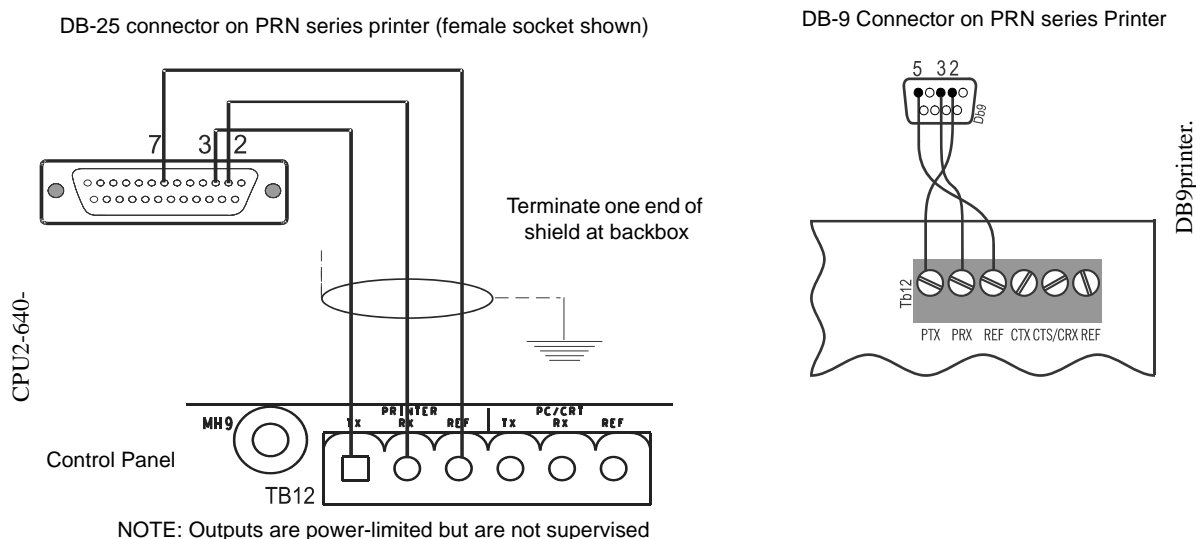

Figure 3.25 Remote Printer Connections
1. Connect the three (3) open leads of the custom cable to the TB12 terminal block on the control panel as shown in Figure 3.25.